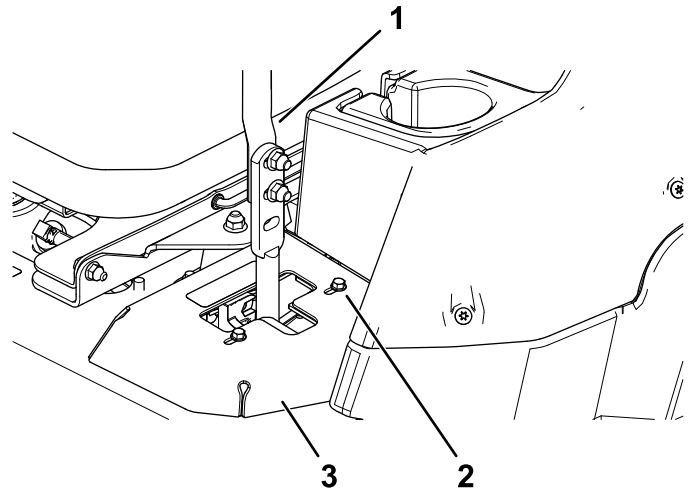

Figure 49
- If it tracks to the right, loosen the bolts and adjust the left stop plate rearward on the left T-slot until the machine tracks straight (Figure 49).
- If it tracks to the left, loosen the bolts and adjust the right stop plate rearward on the right T-slot until the machine tracks straight (Figure 49).
6. Tighten the stop plate (Figure 49).